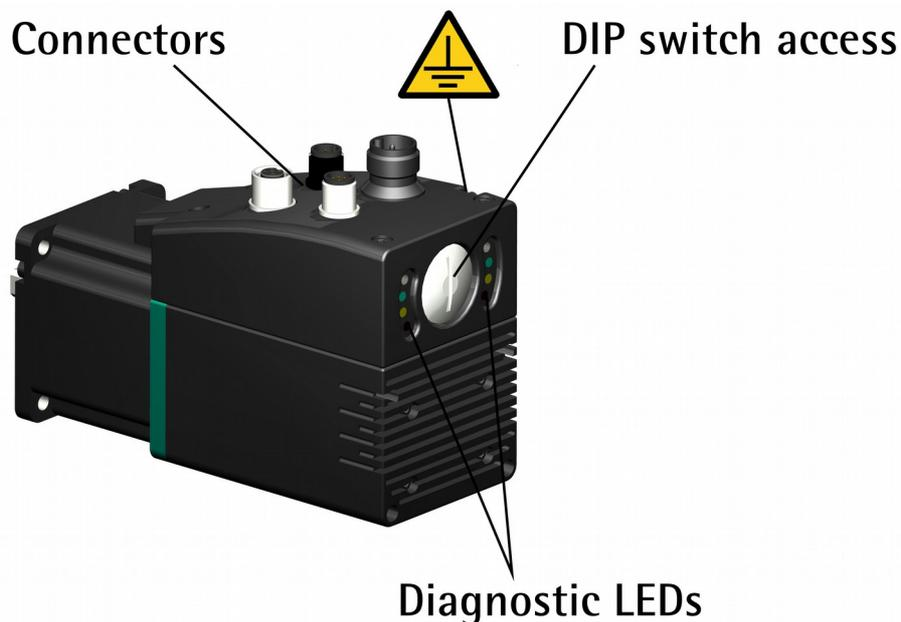
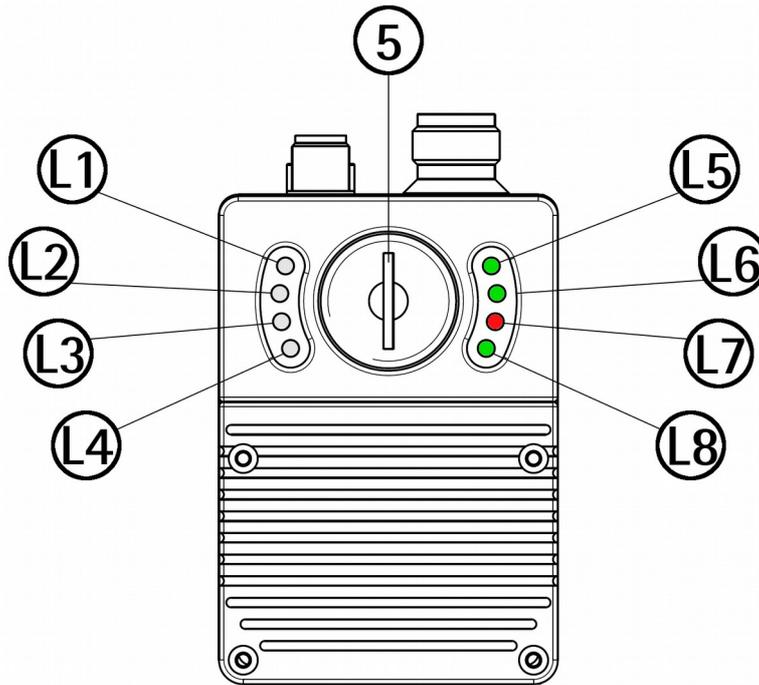

Figure 4: Connectors, diagnostic LEDs and DIP switches
Figure 6: Diagnostic LEDs
4.2 Connectors (Figure 4 and Figure 5)
### 4.3 Diagnostic LEDs (Figure 4 and Figure 6)
#### 4.4 DIP switches (Figure 4 and Figure 6)
To access the DIP switches unscrew and pull out the screw plug **5** (Figure 6) in the back of the enclosure. Be careful to replace the screw plug at the end of the operation.